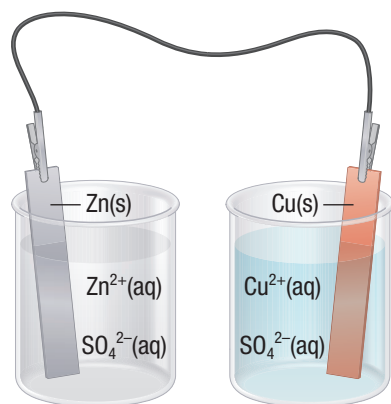

Figure 3 The oxidizing and reducing agents of a redox reaction can be separated by placing them in different containers.
The system illustrated in **Figure 3** is composed of two half-cells connected by a wire. Each **half-cell** consists of an electrode that is in contact with a solution of ions. An **electrode** is a solid electrical conductor. The metal strips in Figure 3 are the electrode. The system in Figure 3 can be called a **cell**, which is a system comprising of two electrodes in contact with appropriate electrolytes.
We might predict that the copper(II) ions in Figure 3 (in the beaker on the right) would attract electrons from the zinc electrode. This would result in a flow of electrons through the wire from the zinc strip to the copper strip. However, careful observation of the cell shows that current flows for an instant and then stops. Why? The current stops flowing because charges build up in the two half-cells. The oxidation of the zinc results in an increase in the concentration of zinc(II) ions in the zinc half-cell. This results in a buildup of positive charge. Similarly, the reduction of copper(II) ions in the copper half-cell reduces the concentration of copper(II) ions in the solution. This results in a buildup of negative charge in the copper half-cell due to the sulfate ions that remain. The buildup of charge in each half-cell prevents further electron transfer from occurring. As a result, the redox reaction stops. This problem can be solved very simply by connecting the solutions so that ions can flow between them to keep the net charge in each half-cell at zero.